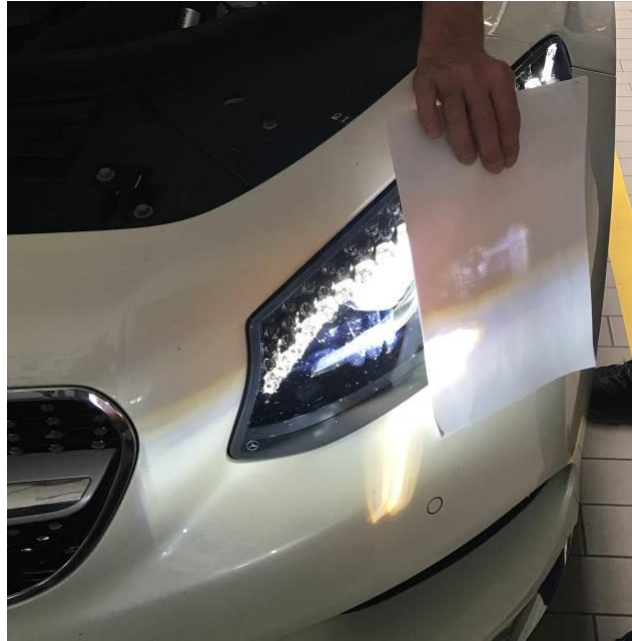

Figure 10
5. Cover outer headlamp (Figure 10).
3. Cover outer headlamp (Figure 10).